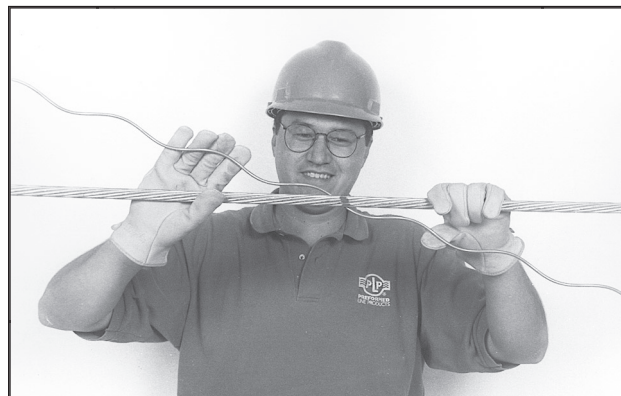

FIGURE 3: APPLY AND WRAP FIRST ROD AROUND CABLE
3.03 Single Set SRR Application: apply the factory-marked centerline of the first FIBERLIGN Suspension SRR to the center mark on the cable (Figure 3). Wrap the first rod around the cable and leave the last 10-14" (250-355 mm) on both ends of the SRR loose or unwrapped. The loose ends are wrapped on once all SRR rods are partially on the cable - this helps establish proper alignment as rods are snapped into place.